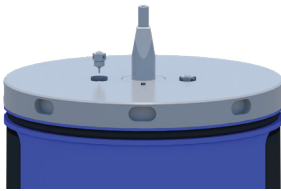

Figure 50
5.0.4) Hand tighten the auto-e pins into the check valves. Push down the pin to ensure it can actuate (see Figure 50).